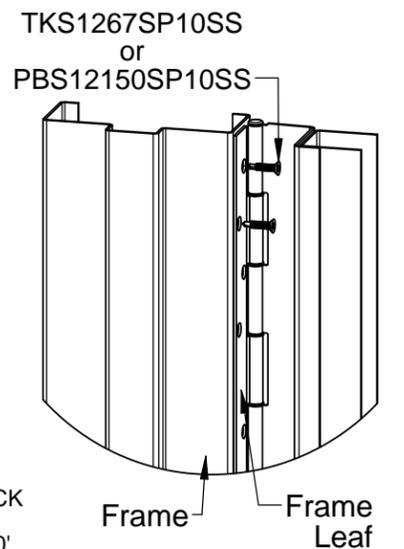

Fig. 6
2. Attaching hinge to frame (Fig. 6)